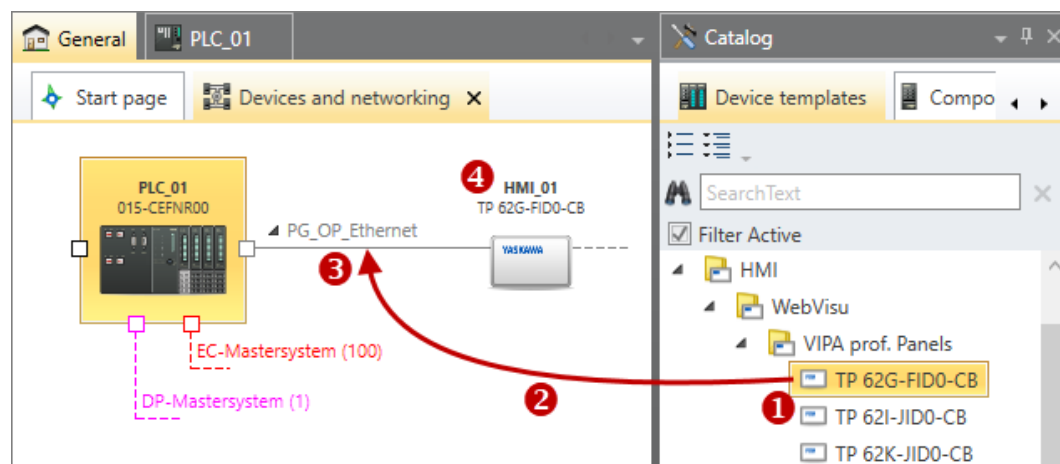

Fig. 59: Adding HMI device via "Catalog"
- **Catalog:** Drag the desired HMI device from the 'Device templates' register of the catalog (↪ *Chap. 4.10 'Catalog' page 31*) to the connecting line "PG_OP_Ethernet" in the 'Devices and networking' editor. Fig. 59